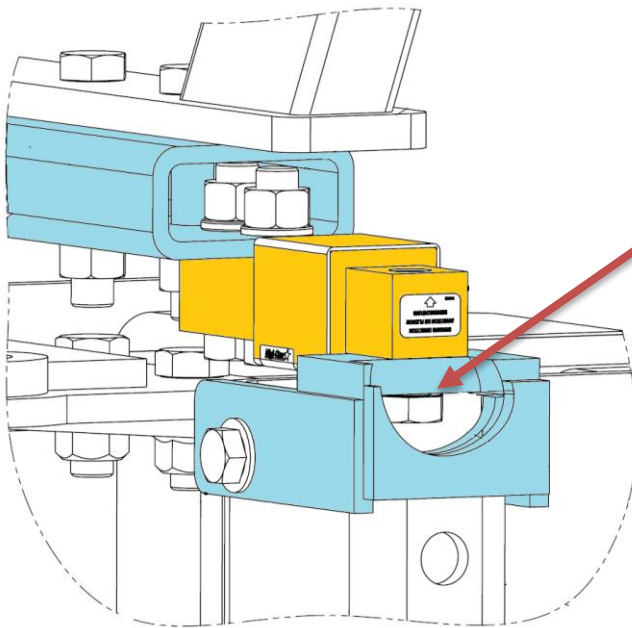

Fig. 2
1. Assemble the load cells to the top front tube. Utilize four  $\frac{3}{4}$  x 3" Bolts to secure the rear portion of the load cell (404284) to the top front tube support (408264) on each side. Bolt the two tube supports to the load cell utilizing the fine threaded  $\frac{3}{4}$ " x 2  $\frac{1}{4}$ " bolt. Leave a  $\frac{1}{16}$ " gap between the head of the fine threaded bolt and the plate. Utilize thread sealant to secure the bolt in place. Refer to Figure 2.